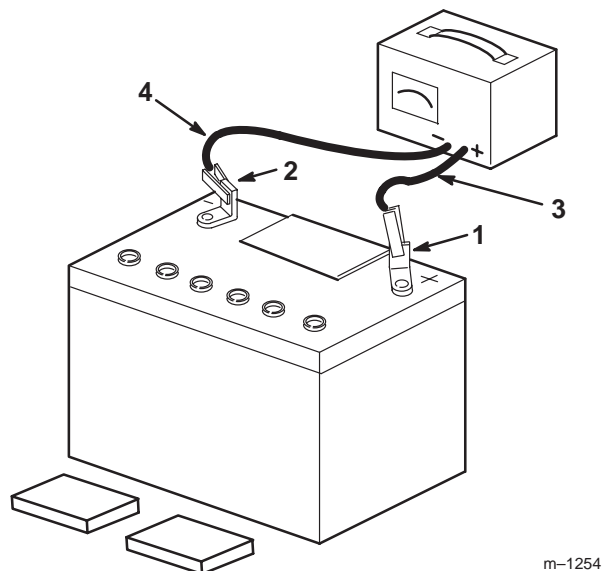

Figure 6
8. Leave the covers off and connect a 3 to 4 amp battery charger to the battery posts (Fig. 6). Charge the battery at a rate of 4 amperes or less for 4 hours (12 volts).
- When the battery is fully charged, disconnect the charger from the electrical outlet then from the negative and positive battery posts (Fig. 6).